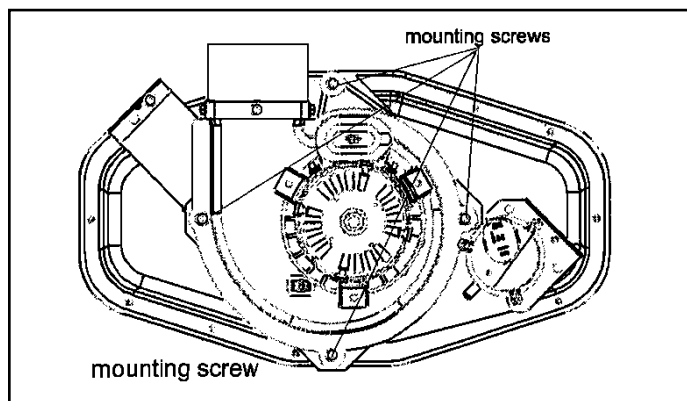

Figure 15. Mounting Screws Location
1. Remove the four mounting screws (Figure 15) which secure the combustion air inducer / pressure switch assembly to the orifice plate. Lift the assembly and rotate it 90° clockwise or counter clockwise to either the 3 o'clock position or 9 o'clock position. Resecure with four screws. Gasket should be left in place.